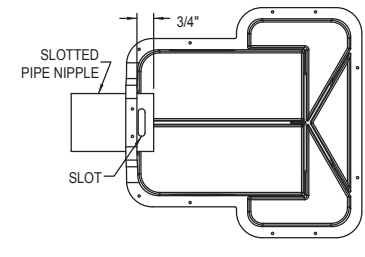

Figure 2.4
- 2.3) Insert slotted pipe nipple through the inlet hole and pipe seal, pushing through about 3/4". See Figure 2.4.